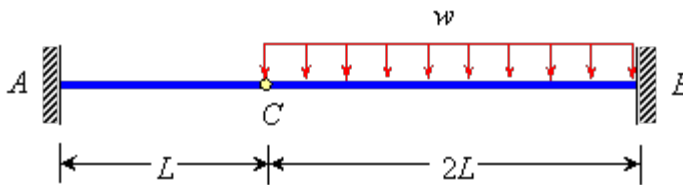

Figure T5.3
**T5.3** Determine the shear in the internal hinge and support reactions of the fixed beam shown in Figure T5.3